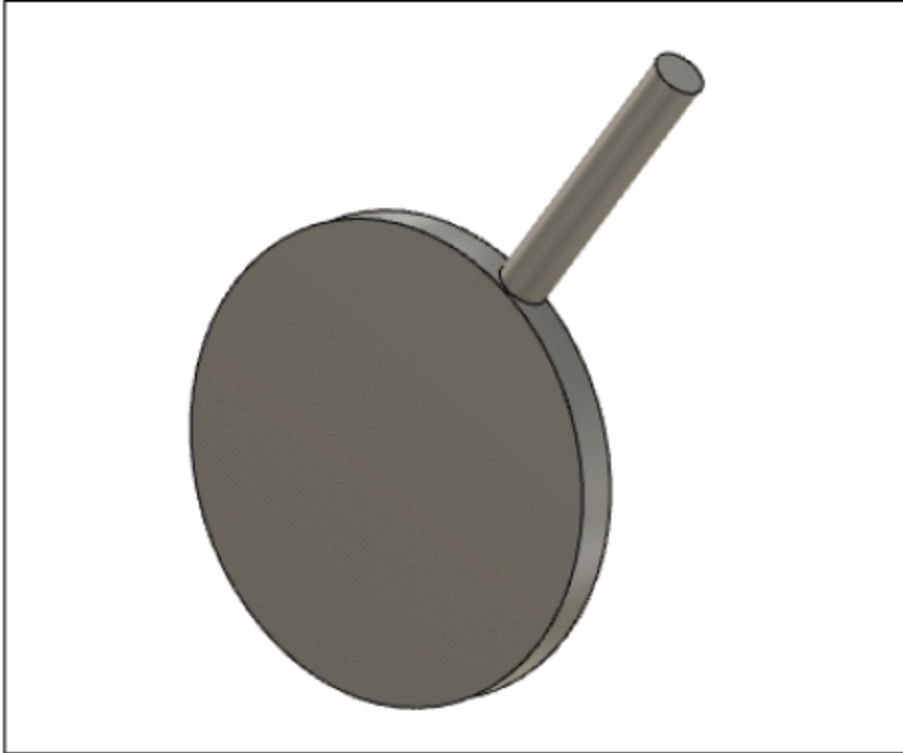

Figure-41. Tangent relationship applied between the components
- After selecting face on a body in the second component, click on the **OK** button from the dialog box. The tangent relationship will be applied between the components; refer to Figure-41.